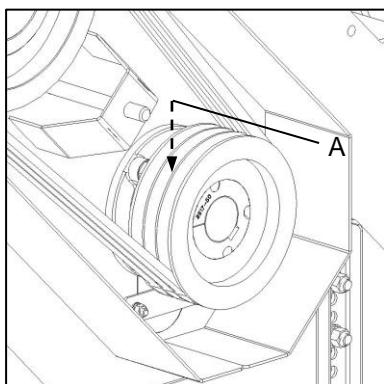
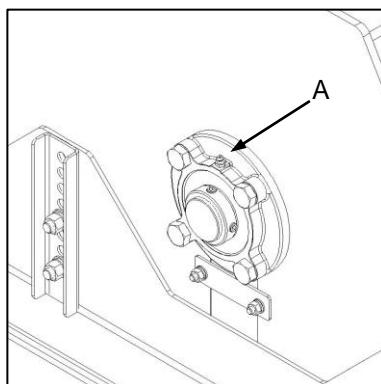
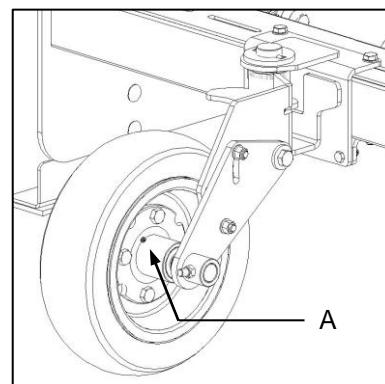

Fig. 1
Fig. 2
Fig. 3
- ✓** Lubricate rotating and sliding components. This includes rotor bearings (Fig. 1-A / Fig. 2-A) and wheel bearings (Fig. 3-A).
- ✓** Ghries draaiende en skuiwende komponente. Dit sluit rotorkoeëllaers (Fig. 1-A / Fig. 2-A) en wielkoeëllaers in (Fig. 3-A).